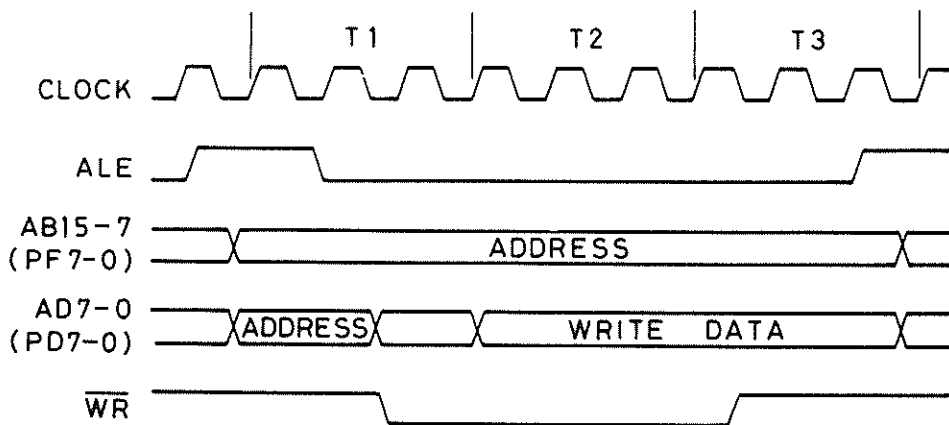

Fig. A-5. Memory Write Timing
3) Memory Write Timing (See Fig. A-5)